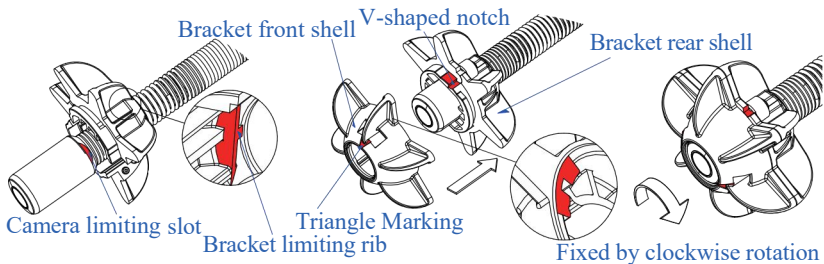

Figure 11. Install 80mm Support Guides
b. Install 80mm support guides. (Figure 11.)